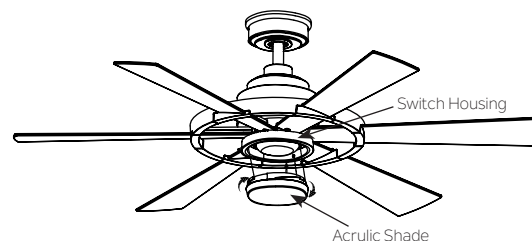

Fig. 23
Step 4. Secure the acrylic shade to switch housing by twisting in a clockwise direction, twist the acrylic shade gradually until it snaps on to the switch housing. Do not over - tighten. (Fig. 23)